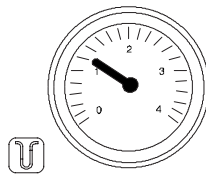

Figure 3.1 (Pressure gauge)
- Ensure that the Central Heating circuit is regularly filled with water checking that the pressure indicated on the pressure gauge is not lower than 1 bar (14.5 psi) as shown on Figure 3.1.
- You should check that the pressure on the pressure gauge (Figure 3.1 on page 10) is not below the correct setting.